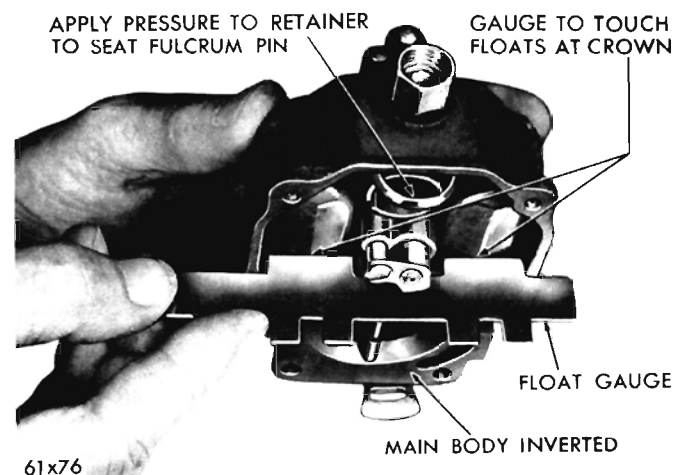

Fig. 12—Measuring the Float Setting
(1) Install the floats with the fulcrum pin and pin retainer in the main body.
(2) Install the needle, seat and gasket in the body and tighten securely.
(3) Invert the main body so that the weight of the floats **only**, is forcing the needle against the seat. Hold finger against retainer to fully seat the fulcrum pin.
(4) Using Tool T109-282 or T109-220; or a T scale, check the float, as shown in (Fig. 12). There should be $\frac{1}{4}$ or $\frac{9}{32}$ inch (Taxi) (depending on carburetor, Refer to Specifications), from the surface of the fuel bowl to the crown of each float at the center.